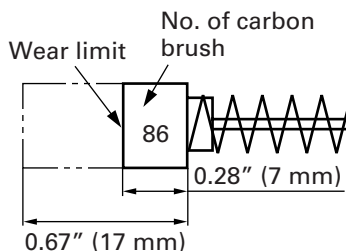

Fig. 8
4. Inspecting the carbon brushes (Fig. 8)
The Motor employs carbon brushes which are consumable parts. When they become worn to or near the "wear limit", it results in motor trouble. When an auto-stop carbon brush is equipped, the motor will stop automatically. At that time, replace both carbon brushes with new ones which have the same carbon brush Numbers shown in the figure 8. In addition, always keep carbon brushes clean and ensure that they slide freely within the brush holders.
NOTE: Use HITACHI carbon brush No. 86 indicated in Fig. 8.